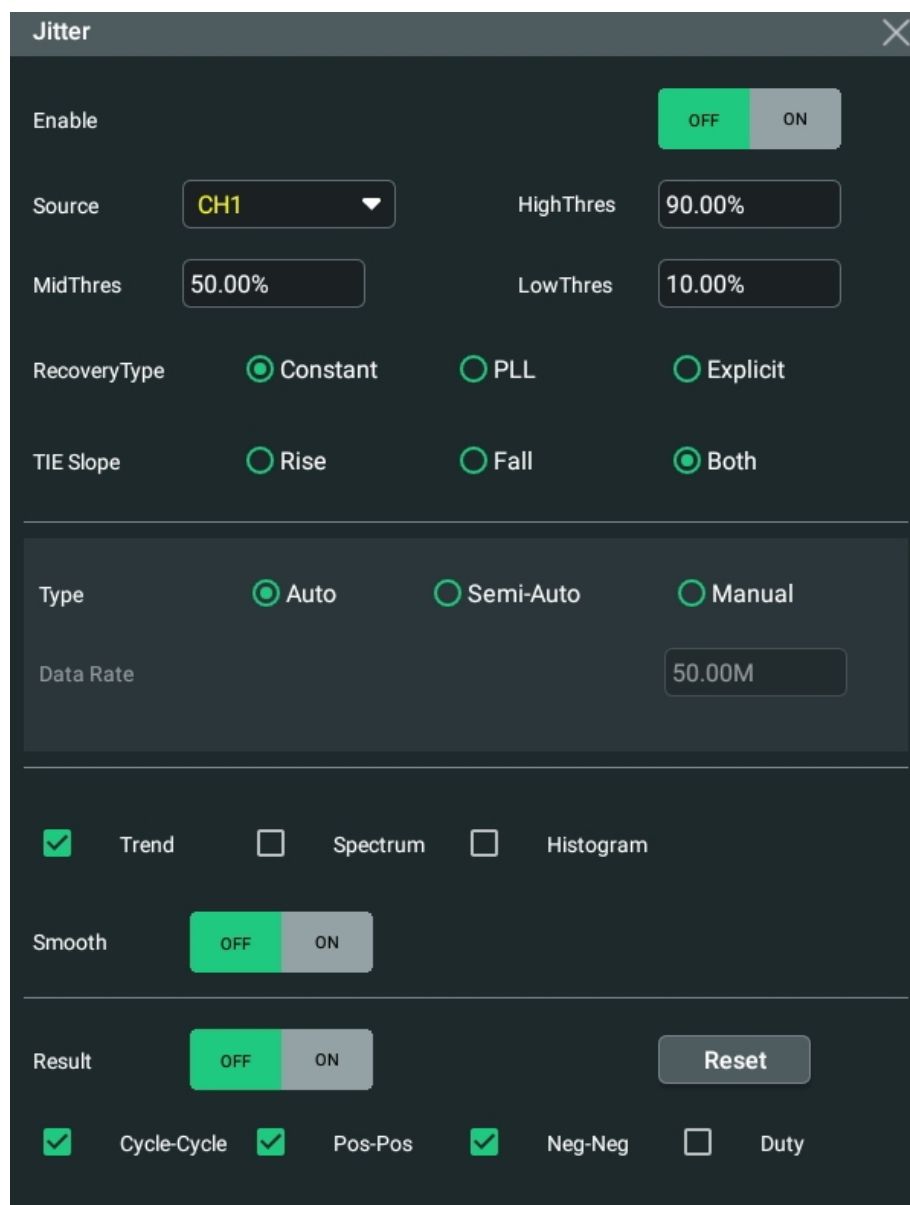

Figure 14.1 Jitter Setting Menu
- Click or tap **Setting**, then the jitter menu is displayed, as shown in *Figure 14.1*.